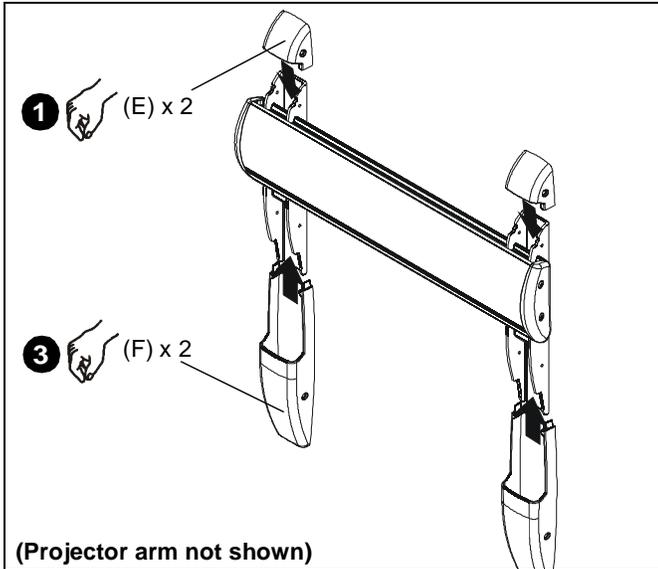

Figure 32
1. Place wall bracket top covers (E) over top of each wall bracket arm. (See Figure 32)
3. Place wall bracket bottom covers (F) over bottom of each wall bracket arm. (See Figure 32)